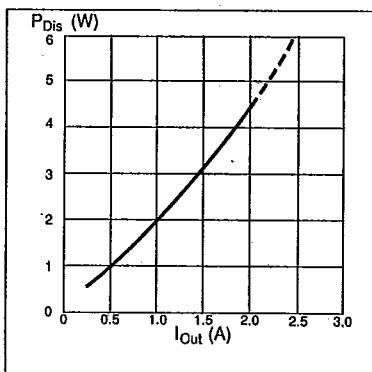

Figure 12. Typical power dissipation vs. output current.
- Figure 12 gives the relationship between drive current and the actual power dissipation.